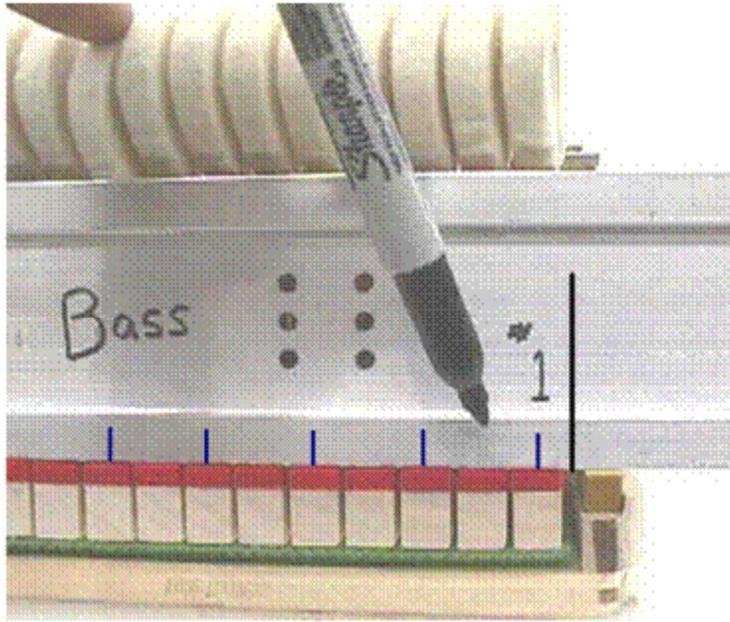

Figure 2A
- C. **Mark the starting** and ending point on the rail (first and last keys of that section with key solenoids) (Figure 2A)